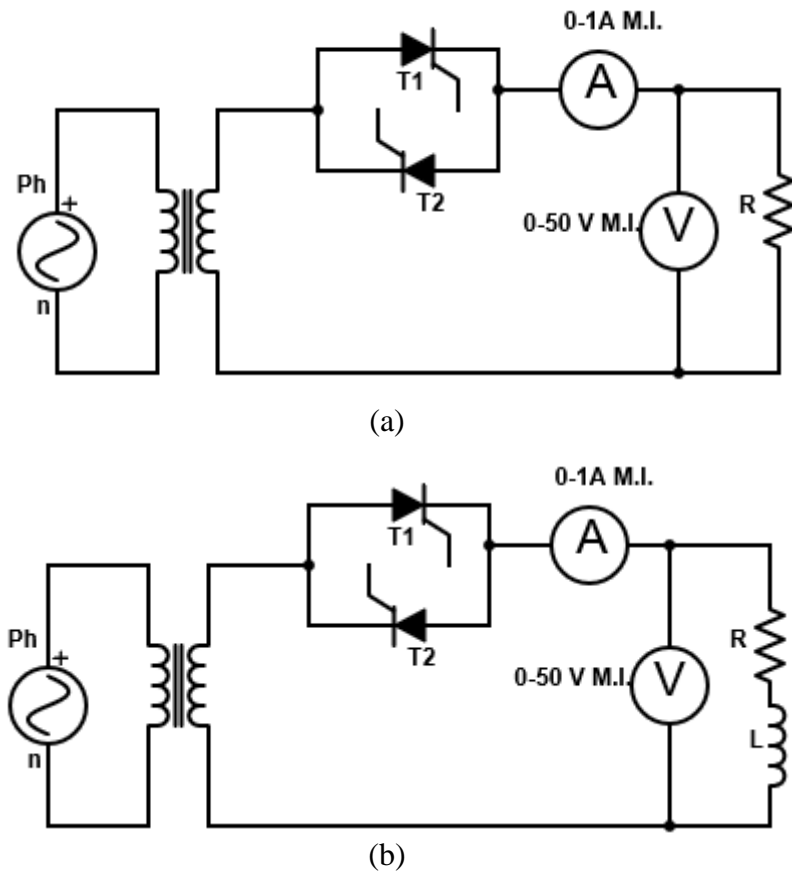

Fig. 5.1 Circuit diagram of AC voltage controller with (a) R and (b) R-L load.
AC voltage controller or phase angle controller for R load is given in Fig. 5.1 (a). During positive half cycle, T_1 is triggered at α , making v_o same as v_s . At $\omega t = \pi$, both v_o and i_o go to zero and T_1 is turned OFF. Similarly, T_2 is fired at $\pi + \alpha$ and is naturally commutated at 2π . The output r.m.s. voltage which is a function of input voltage and firing angle can be derived from the output voltage wave shape and is given below:
1. All connections are to be made as per the circuit diagram given in Fig. 5.1 (a)